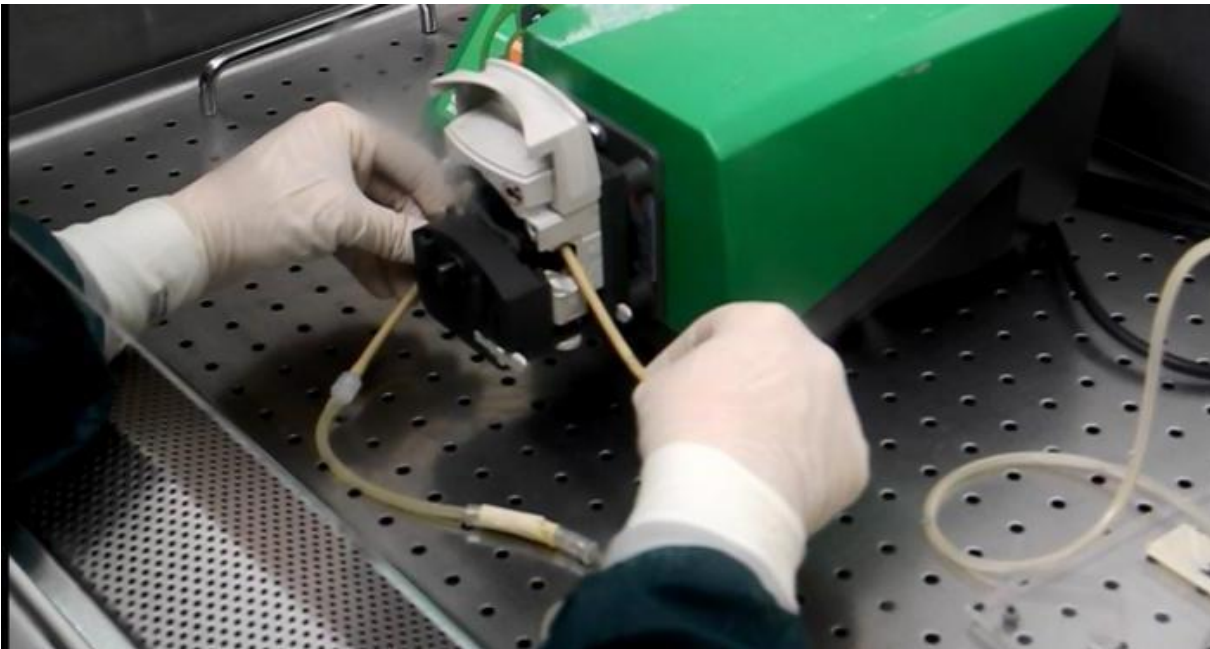

Figure 11
- Insert for each circuit one pump head on the roller pump. Insert each pump tubing in an individual pump head (Figure 11), lock the pump heads on the pump tubing.